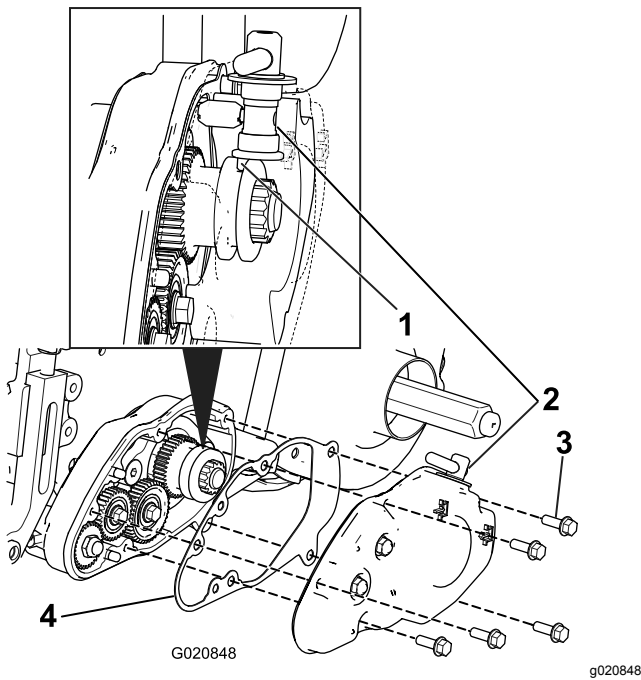

Figure 16
2. Place the gasket over the dowel pins on the groomer housing (Figure 16).
3. Install the cover onto the groomer housing, inserting the actuator pin of the clutch assembly into the groove of the drive gear (Figure 16).
4. Secure the cover with 5 flange-head bolts (Figure 16) and torque them to 9.6 to 10.5 N·m (85 to 95 in-lb).